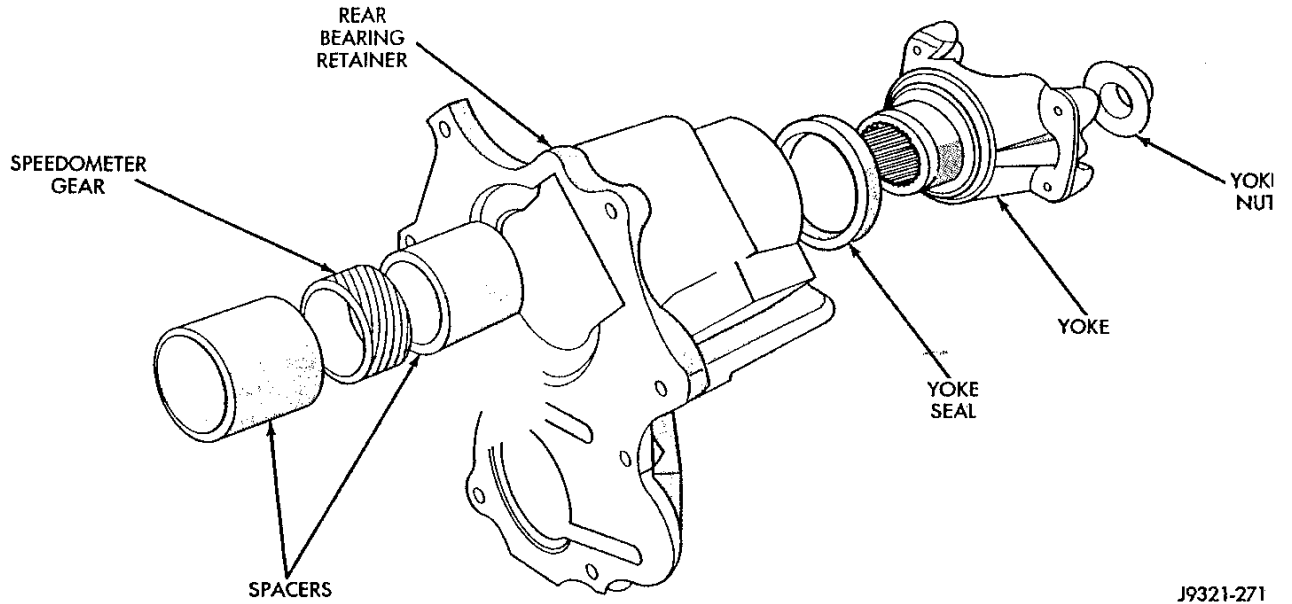

Fig. 4 Two Wheel Drive Rear Bearing Retainer And Speedometer Gear Removal
(2) On 2-wheel drive models, remove rear bearing retainer as follows (Fig. 4):